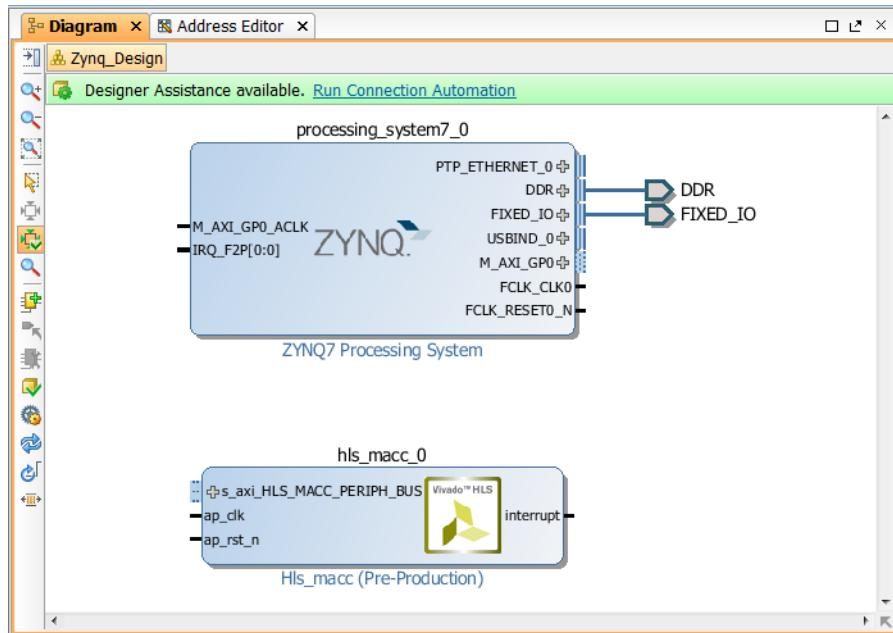

Figure 10-19: Processor and HLS IP
- b. Type **hls** in the Search text entry box and press **Enter** to add it to design (Figure 10-19).